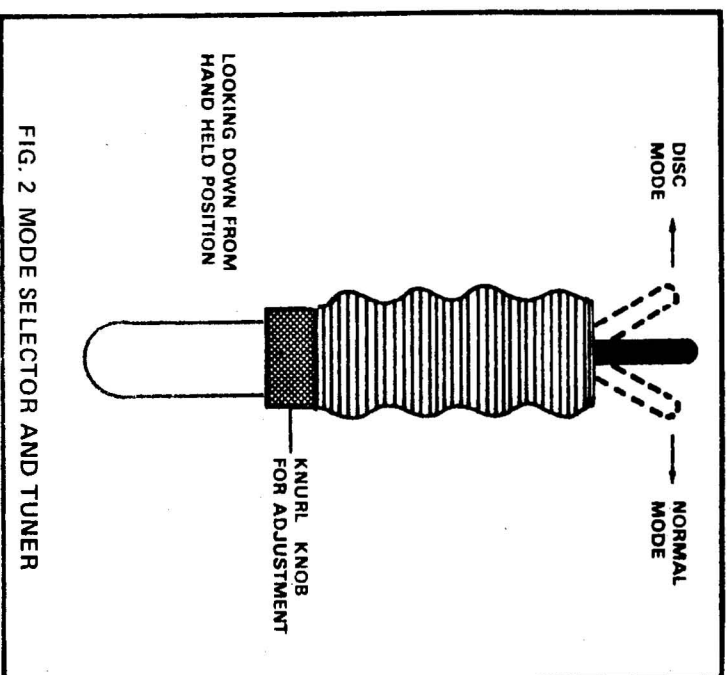

FIG. 2 MODE SELECTOR AND TUNER
This control is used to adjust the detector's threshold (the most sensitive point for target indication). The toggle tuner, Fig. 2, must be pressed to the right for normal mode, to the left for discriminate, while adjusting the tuning control.
5. Press Dual-Synchro Tuner switch, Fig. 2, to right with your thumb and rotate the tuning control, No. 4, Fig. 2, until you receive a meter reading of approximately 30- to 40-. Now release the DST switch and let it return to center.